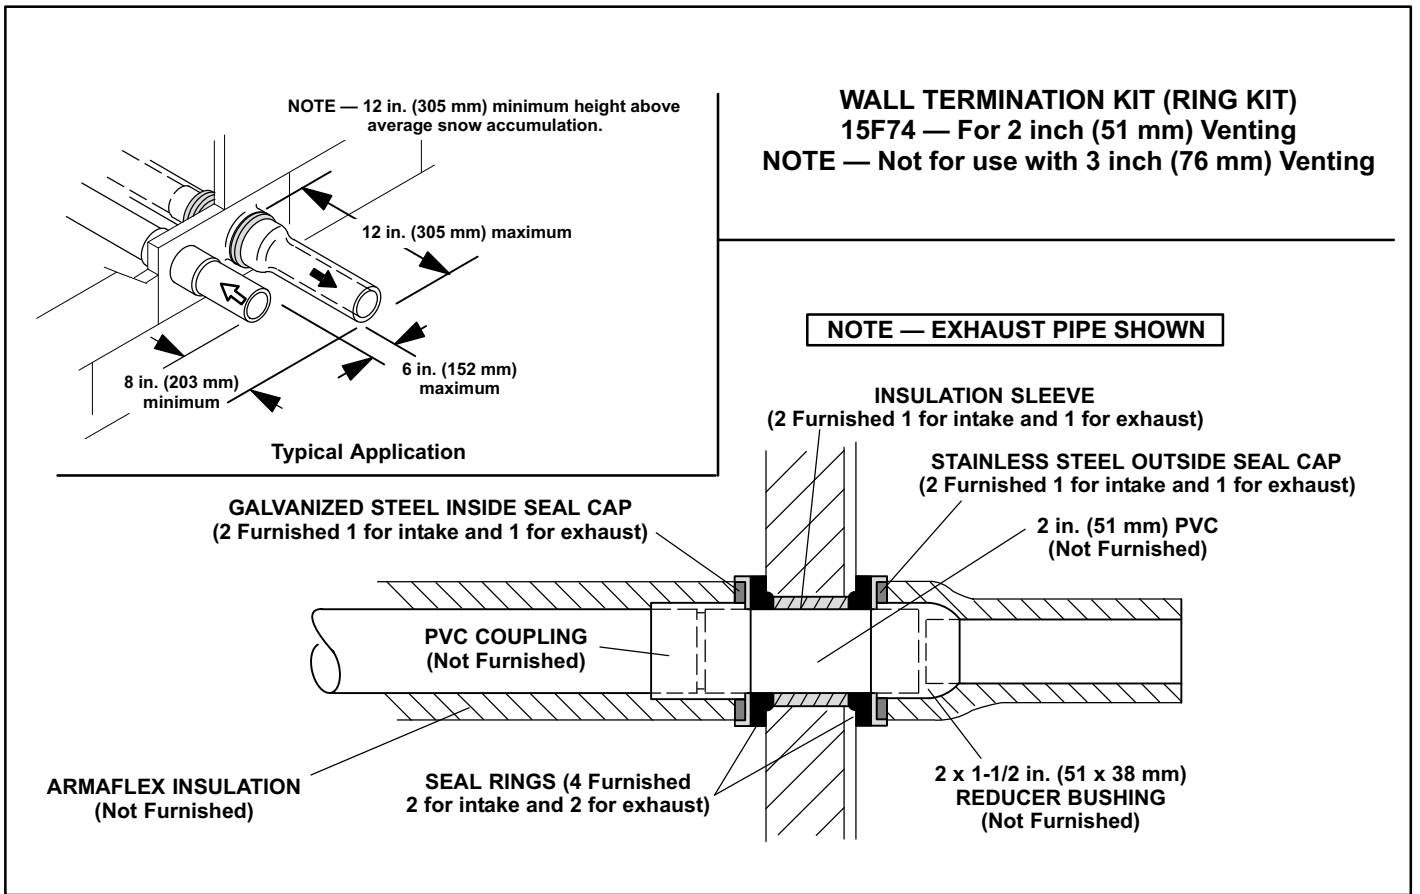

FIGURE 44
- 6 - On side wall exits, exhaust piping should extend a maximum of 12" (395mm) beyond the outside wall. Intake piping should be as short as possible. See figure 44.